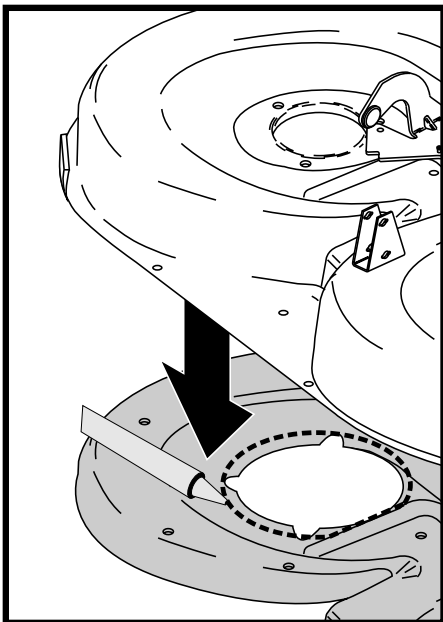

FIG. 1
7. Apply beads of sealant on liner 1/4 inch outside of both circle cutouts, (if deck has teardrop stripper instead of round, cut out section indicated on liner using scissors or tin snips, then apply sealant to this new shape 1/4 inch all around). See FIG. 1.